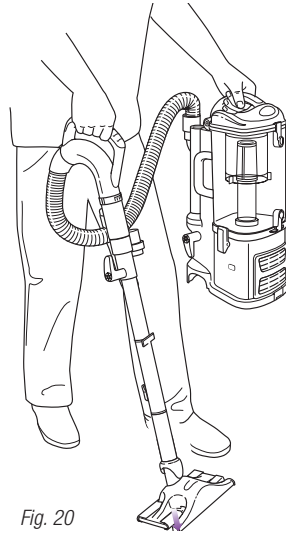

Fig. 20
- 2 Attach Dust-Away™ hard floor attachment onto the end of the extension wand. (Fig. 20)